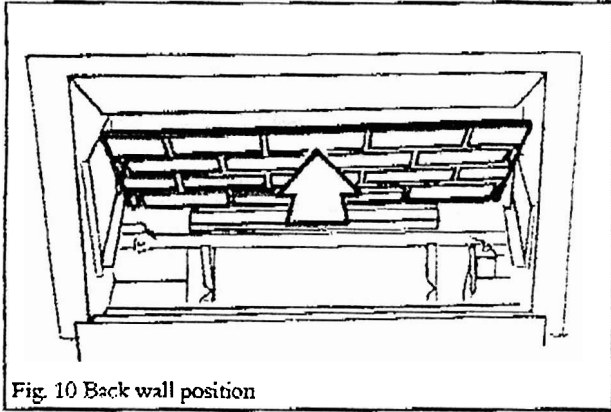

Fig. 10 Back wall position
- 12.1 Place the ceramic back wall in position centrally at the back of the firebox. It must rest on the metal ledge at the back of the firebox (see figure 10).